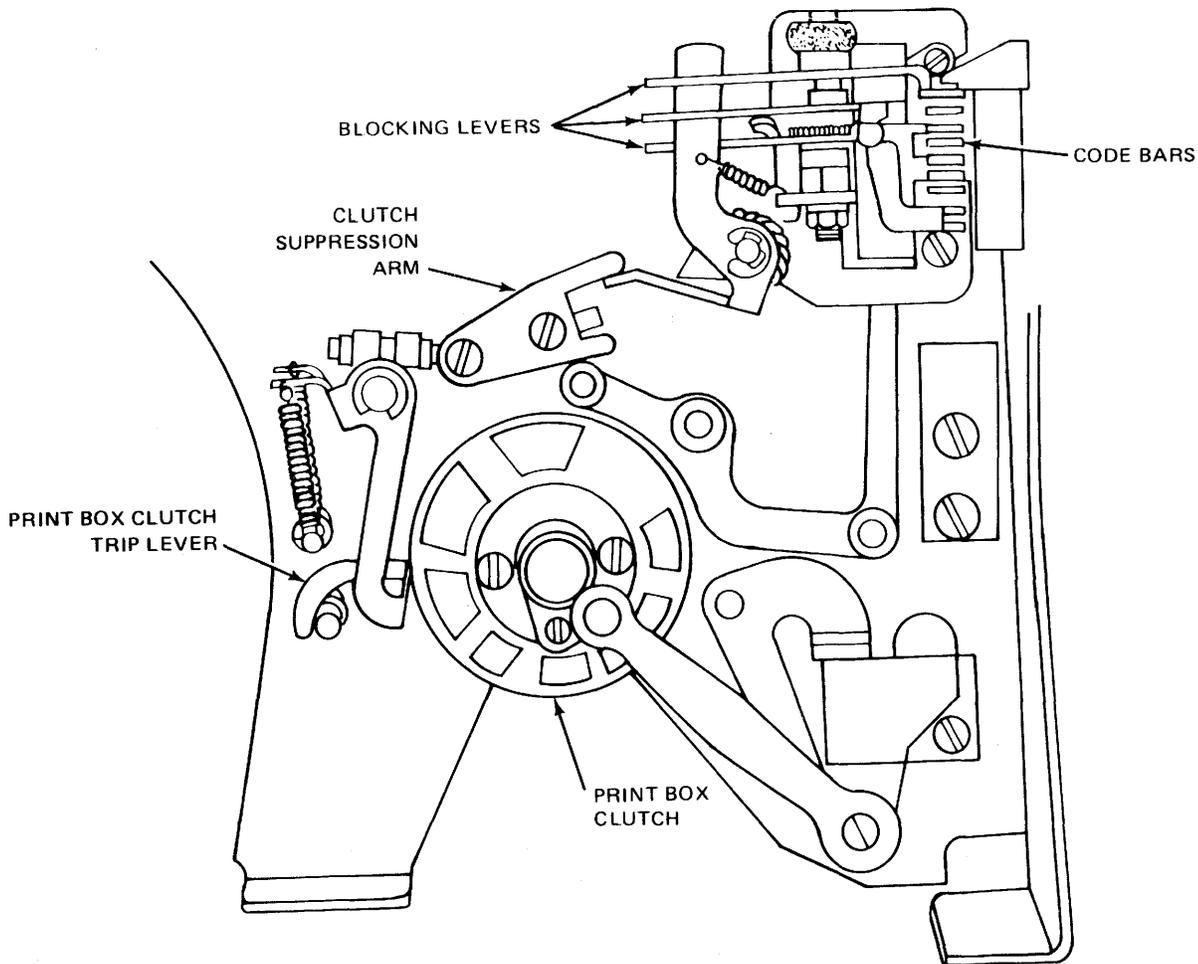
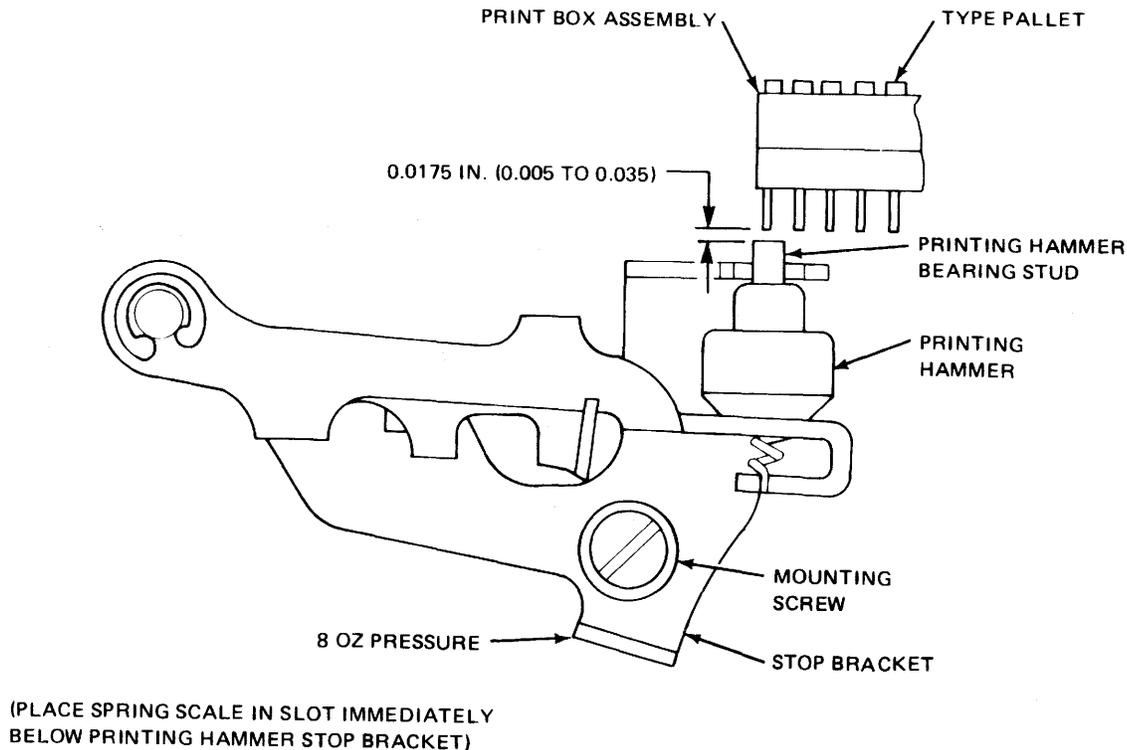
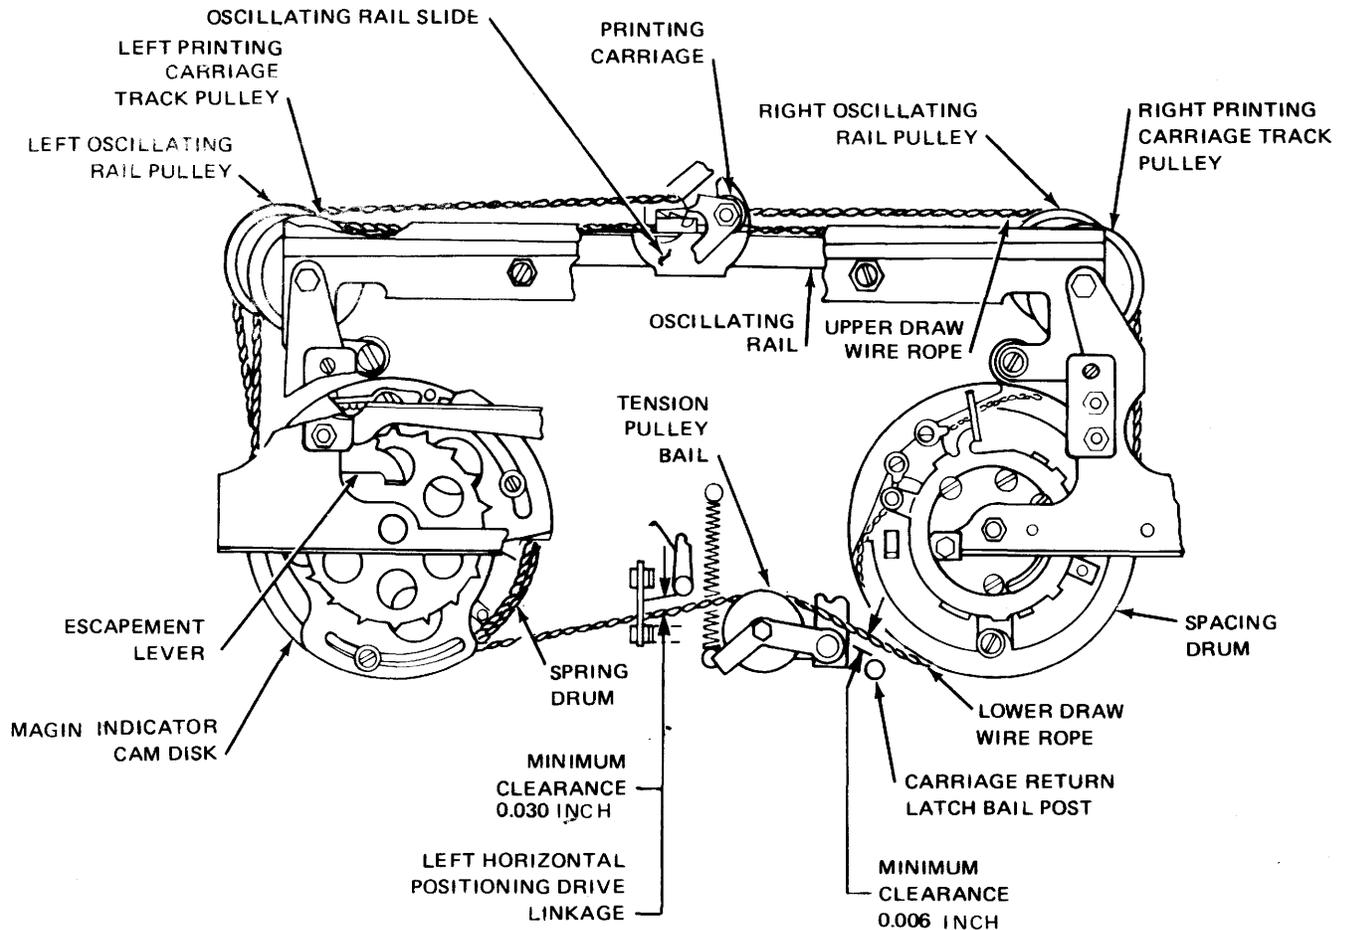

Figure 6-4. Print Box Clutch Trip Lever.
Figure 6-6. Print Hammer Stop Bracket Adjustment.
Figure 6-9. Lower Draw Wire Rope Adjustment (Front View).
6-8. Keyboard Hammer Bearing Stud Adjustment. To adjust the hammer bearing stud, perform normal turn-on procedure (paragraph 6-6), see figures 6-4 and 6-5, and proceed as follows:
a. Release print box clutch on left end of printer unit main shaft by momentarily lifting the print box clutch trip lever while rotating the main shaft counterclockwise (see figure 6-4). Continue to rotate main shaft slowly until the printing hammer strikes the type pallet.
6-9. Keyboard Hammer Stop Bracket Adjustment. To adjust hammer stop bracket, perform normal turn-on procedure (paragraph 6-6), see figures 6-4 and 6-6, and proceed as follows:
a. Release print box clutch at left end of printer unit main shaft by momentarily lifting print box clutch trip lever while rotating main shaft counterclockwise (see figure 6-4). Continue to rotate main shaft until printing hammer strikes type pallet (see figure 6-6).
b. While applying 8 ounces of pressure to printing mechanism, loosen stop bracket mounting screw and move stop bracket to obtain clearance of 0.0175 (0.005 to 0.035) inch between printing hammer bearing stud and type pallet (see figure 6-6).
6-11. Keyboard Carriage Adjustment. To adjust the keyboard carriage, perform turn-on procedure (paragraph 6-6), see figures 6-4 and 6-8, and proceed as follows:
a. Release the print box clutch at left end of printer unit main shaft by momentarily lifting the print box clutch trip lever (see figure 6-4) while rotating main shaft counterclockwise. Continue to rotate main shaft until the printing hammer strikes the type pallet.
6-12. Keyboard Lower Draw Wire Rope Adjustment. To adjust keyboard lower draw wire rope, see figures 6-4 and 6-9, and proceed as follows:
b. Release the print box clutch at left end of printer unit main shaft by momentarily lifting the print box clutch trip lever (see figure 6-4) while rotating main shaft counterclockwise. Continue to rotate main shaft until left horizontal positioning drive linkage is at its lowest position. (see figure 6-9).
(1) Minimum clearance of 0.006 inch between carriage return latch bail post and lower draw wire rope (see figure 6-9).
(2) Minimum clearance of 0.030 inch between left horizontal positioning drive linkage and lower draw rope (see figure 6-9).